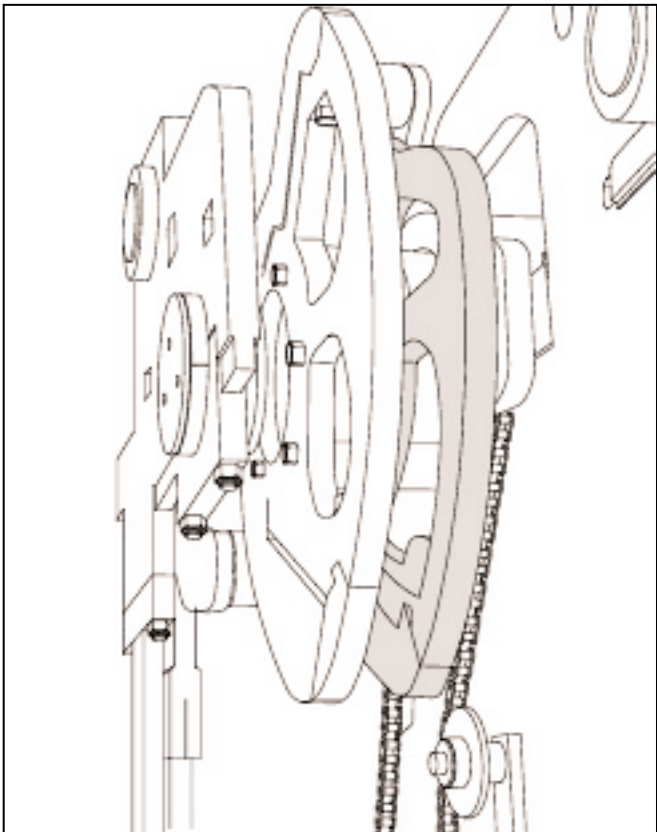

Figure 7.4 STRIPPER HEAD RAISING CAM.
7.3 Run the machine to "second stop" position which is controlled by the rotary sensor. The roller should be centered with the "second stop" marks on the pallet receiver cam. "Second stop" is the point where the stripper head shaft roller just falls off the high lobe of the stripper head raising cam. The stripper head raising cam is the second cam from the outside on the right side of the machine (see figure 7.4). The "rotary sensor value" should be indicating 180° at this point.